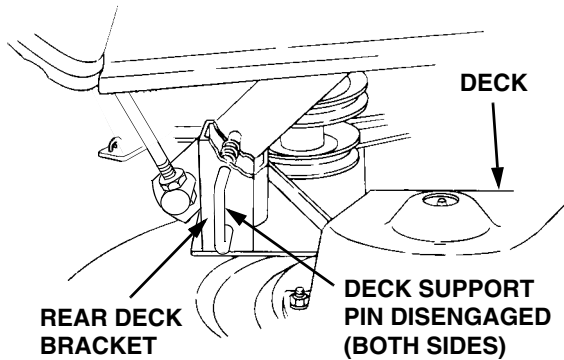

Figure 40
- Pull the deck support pins outward, turn downward and release so both spring-loaded pins are held in the disengaged position against the outer surface of the rear deck brackets (See Figure 40).